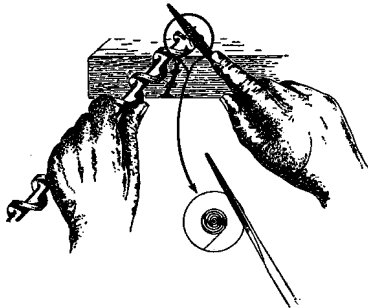

FIGURE 8.
- (3) *Resharpener Spur*—Hold the bit against a wood support with the point up and then place an auger bit file on the inside of the spur on the front edge which performs the cutting. Sharpen this cutting edge by pressing lightly on the file and keeping it at an angle that will limit the amount of metal removed. See Figure 8. Except for “touching up”, never file the outside of the spur as this destroys the clearance and causes the bit to bind or stick. The foremost edge of the outlining spur must extend beyond the cutting edge for efficient boring. If such is not the case, the bit should be returned for a new one.